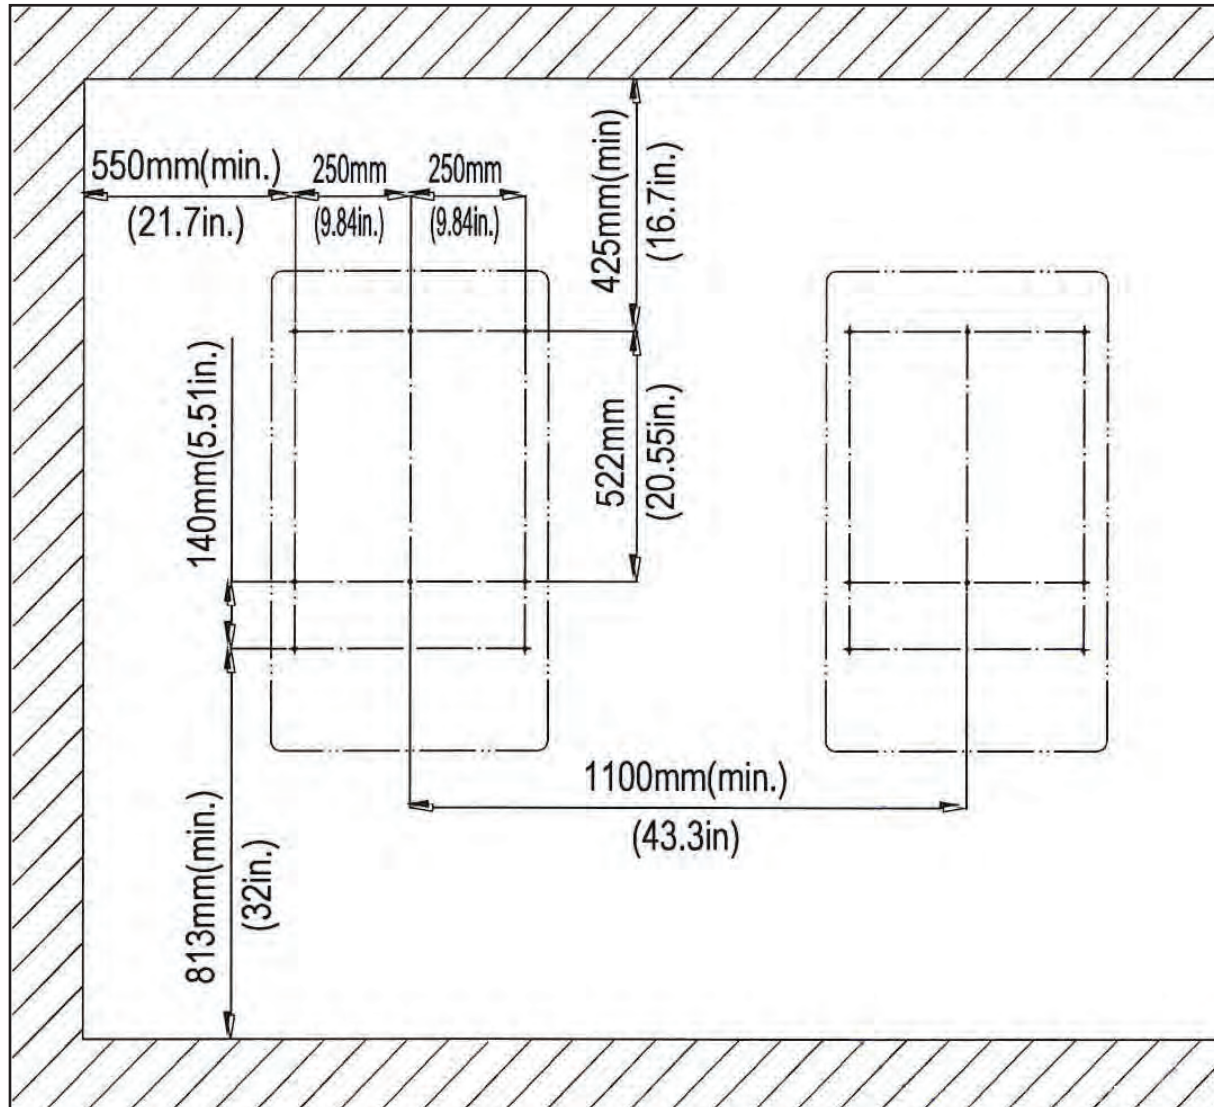

Figure 3-5 Dimensions of holes on the bearing surface
(1) Mark the 8 holes on the bearing surface for mounting the bracket as shown in Figure 3-5: